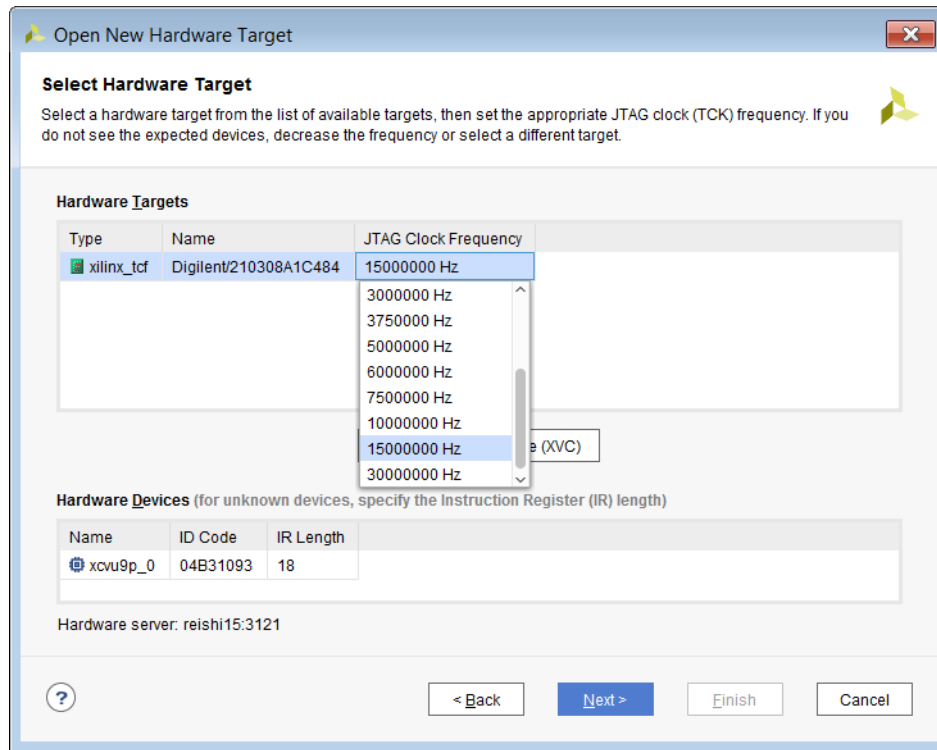

Figure 4-5: Selecting a Hardware Target
- If you are not able to correctly identify the hardware devices on your target, it might mean that your hardware is not capable of running at the default target frequency. You can adjust the frequency of the TCK pin of the hardware target or cable (see Figure 4-5). Note that each type of hardware target may have different properties. Refer to the documentation of each hardware target for more information about these properties.
- While the Vivado hardware server will attempt to automatically determine the instruction register (IR) length of all devices in the JTAG chain, in some rare
circumstances it might not be able to correctly do so. You should check the IR length for each unknown device to make sure it is correct. If you need to specify the IR length, you can do so directly in the **Hardware Devices** table of the **Open New Hardware Target** wizard (see Figure 4-5).